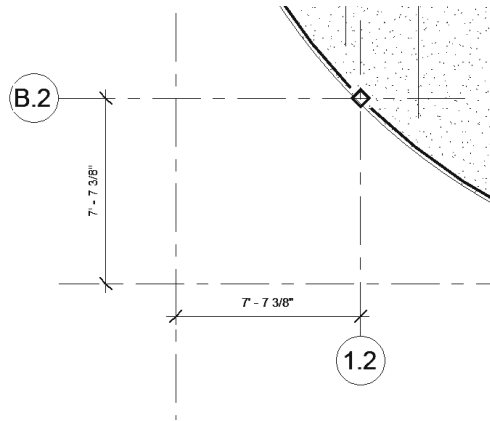

FIGURE 8-6.6 Dimension near curved beam
10. Add two dimensions to locate the grids near the curved beams as shown in Figure 8-6.6.